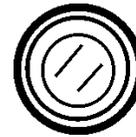

Figure 15. Start Pushbutton Switch
7. Press the generator's pushbutton start switch (Figure 15) and listen for the engine to start. If the battery is not installed proceed to step 6.